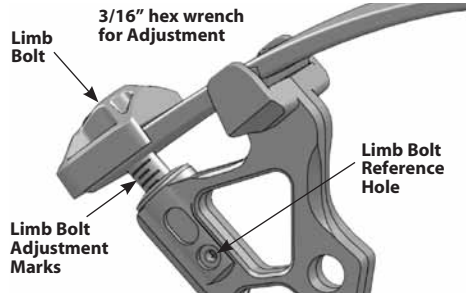

Figure 4. Atomic Draw Weight Adjustment
A new limb bolt design for draw weight adjustment has been introduced by Diamond this year. The limb bolt has been marked with increments to help you set up your bow. Each mark is reflective of approximately 8% of the bows original peak weight. Every bow configuration as seen in Table 1 has a slightly different result so therefore please consult your maximum and minimum draw weights available for each. This new feature is also a useful tool in keeping the limb bolts equal on both the top and bottom of your bow when you are adjusting draw weight. **As a safety precaution, the limb bolts should never be backed out beyond the limb bolt reference hole on the riser while the bow is being shot. Please reference Figure 4.**
1. Before adjusting limb bolts, note setting on limb bolt adjustment marks for future reference. **(See Figure 4).**